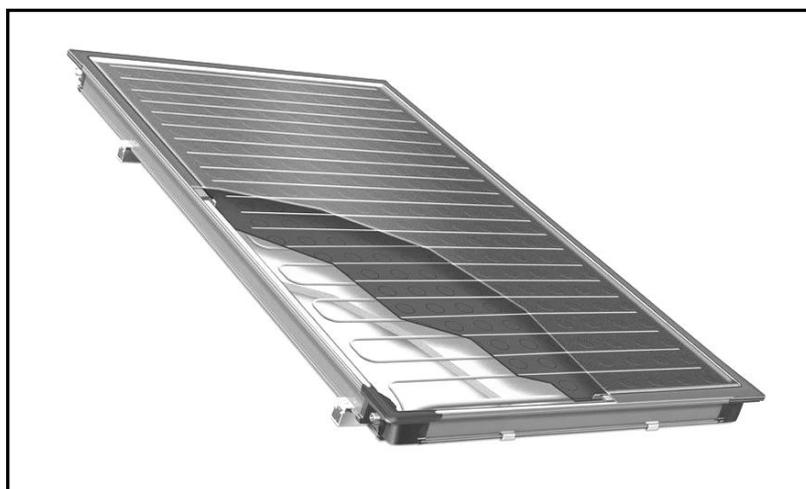

FIGURE 4.6
4.6 FIGURE 4.6 below shows a solar heating unit. (1)